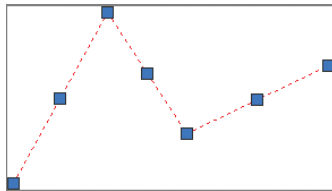

FIGURE 2.12 Selecting lines before deleting them
4. Click each of the segments, one at a time. Blue grips appear on the lines' endpoints and midpoints (see Figure 2.12). Grips are used for editing, and you'll learn more about them in Chapter 4, "Editing Entities." In the meantime, it's helpful to know that if you press the Delete key, the lines are gone.